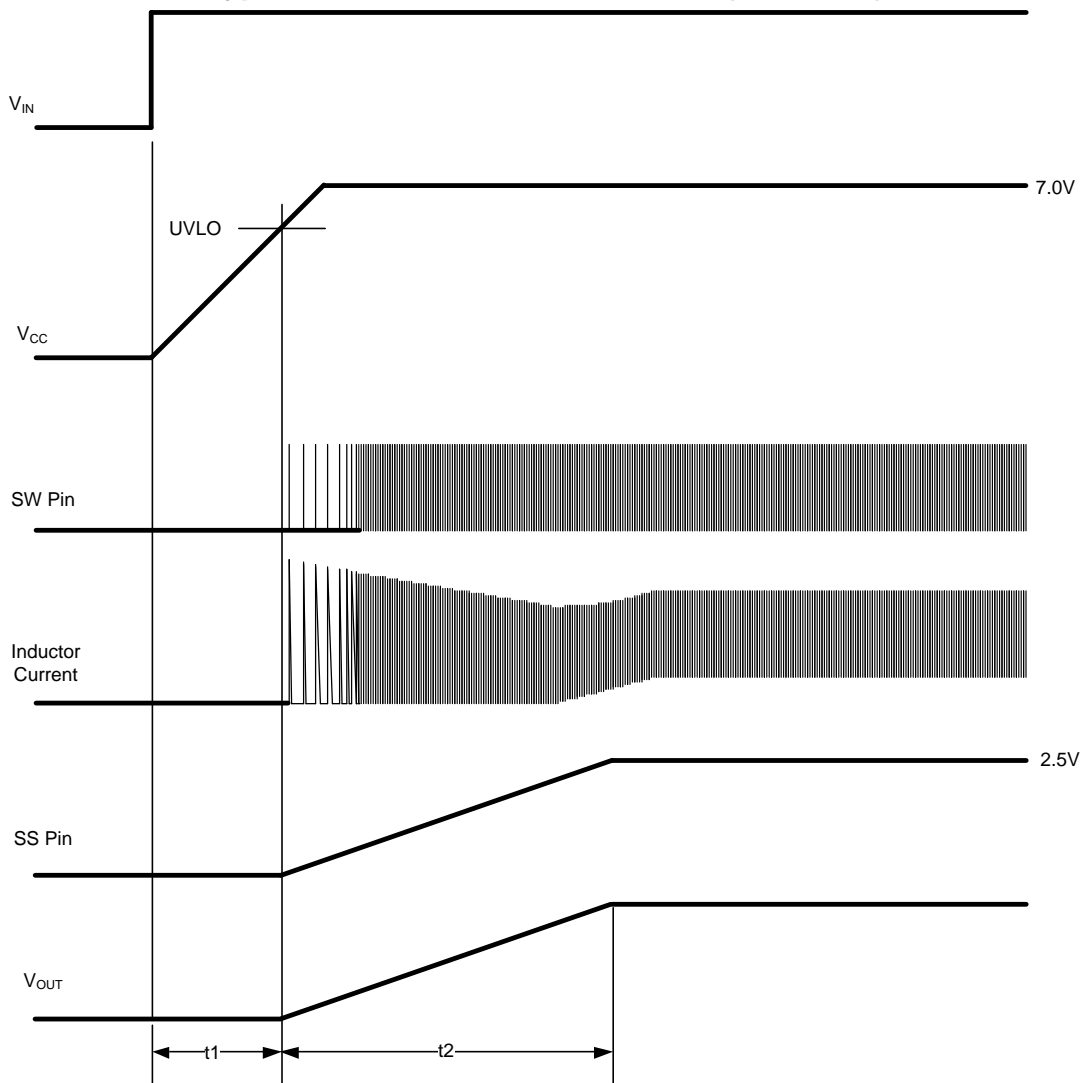

Figure 8. Startup Sequence
The startup regulator is integral to the LM5010. The input pin ( $V_{IN}$ ) can be connected directly to line voltages up to 75V. The  $V_{CC}$  output is regulated at 7.0V,  $\pm 6\%$ , and is current limited to 10 mA. Upon power up the regulator sources current into the external capacitor at  $V_{CC}$  (C3). With a 0.1  $\mu\text{F}$  capacitor at  $V_{CC}$ , approximately 58  $\mu\text{s}$  are required for the  $V_{CC}$  voltage to reach the under-voltage lockout (UVLO) of 5.8V ( $t_1$  in Figure 8), at which time the buck switch is enabled, and the soft start pin is released to allow the soft start capacitor (C6) to charge up.  $V_{OUT}$  then increases to its regulated value as the soft start voltage increases ( $t_2$  in Figure 8).
The soft start feature allows the converter to gradually reach a steady state operating point, thereby reducing startup stresses and current surges. Upon turn-on, after  $V_{CC}$  reaches the under-voltage threshold ( $t_1$  in Figure 8), an internal  $11.5\ \mu\text{A}$  current source charges the external capacitor at the Softstart pin to 2.5V ( $t_2$  in Figure 8). The ramping voltage at SS (and at the non-inverting input of the regulation comparator) ramps up the output voltage in a controlled manner. This feature keeps the load current from going to current limit during startup, thereby reducing inrush currents.
**C3:** The capacitor at the  $V_{CC}$  pin provides not only noise filtering and stability, but also prevents false triggering of the  $V_{CC}$  UVLO at the buck switch on/off transitions. For this reason, C3 should be no smaller than 0.1  $\mu\text{F}$ , and should be a good quality, low ESR, ceramic capacitor. This capacitor also determines the initial startup delay ( $t_1$  in Figure 8).